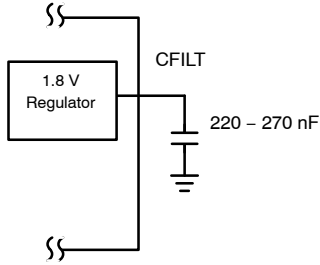

Figure 4. CFILT Capacitor
3. C_{FILT} capacitor must be installed; see Figure 4.
- Outputs loaded with 15 pF max to ground. C_{FILT} capacitor must be installed; see Figure 4.